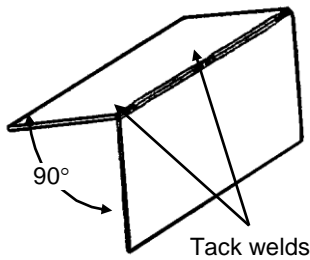

FIG 13.
1. Tack weld two pieces of 1,6mm thick mild steel plate to give an included angle of 90°. (See Fig 13)